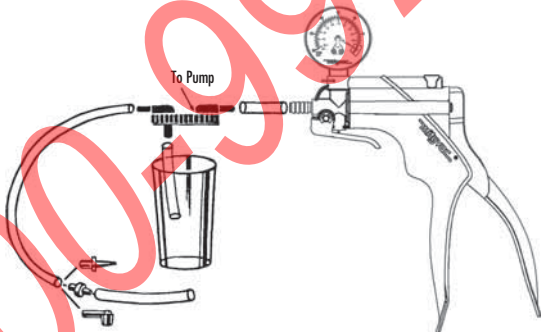

FIGURE 16: BRAKE BLEEDING KIT
- 3) Slip 1½" of tubing between the pump and the lid of reservoir jar at port marked "TO PUMP" (FIGURE 16).